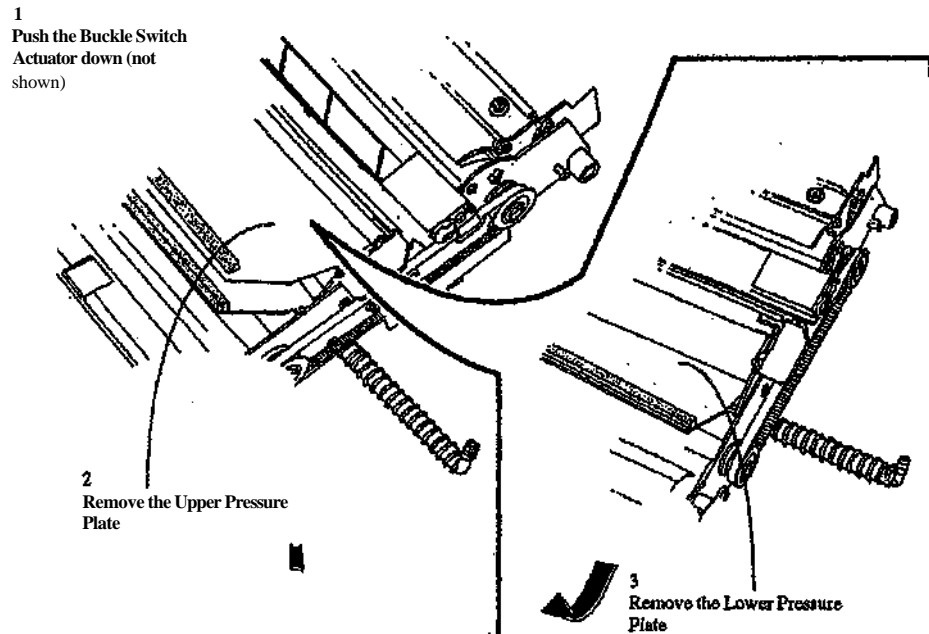

Figure 1. Removing the Pressure Plates
4. (Figure 1): Remove the Upper and Lower Pressure Plates.